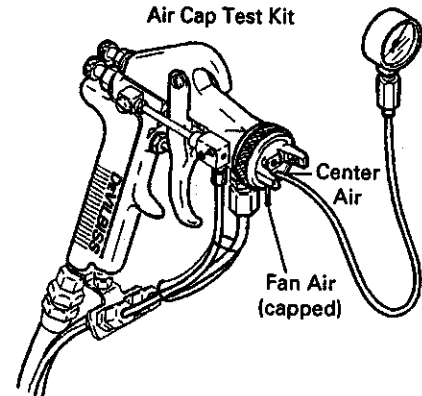

Figure 4
1. Attach air cap test kit to gun (Figure 4).